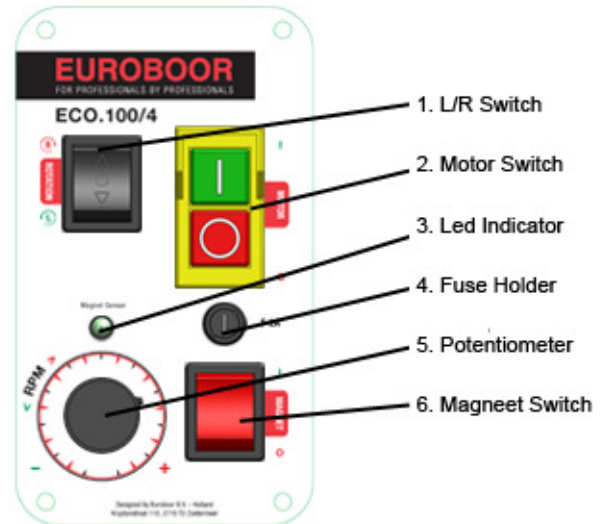

Fig. 2
Connect the machine to the mains/work piece. To activate the magnet, press the red button (Fig. 2 – 6). The switch will be lit (red). The LED indicator (Fig. 2 - 3) will be lit GREEN if generated magnetic force is sufficient. When LED indicator turns RED there is not enough magnetic force and it is not safe to work. To deactivate the magnet, press the same button (Fig. 2 - 6) again.
The motor unit can only be switched ON when the magnet is activated. To turn the motor ON, by pressing the green button with marking "I"(Fig. 2 - 2). To switch the motor OFF, press the red button with marking "O"(Fig. 2 - 2).
- Switch off the machine (Fig. 2 - 2) and change the cutter for the tap collet and the machine tap;
- Select the lowest gear (Fig. 4) and speed (Fig. 2 - 5) and set the direction of rotation to clockwise (right = R) at switch (Fig. 2 - 1);
- Switch on (Fig. 2 - 2) the machine and set the machine tap onto the drilled hole;
- Switch off (Fig. 2 - 2) the machine and set the direction of rotation to anti-clockwise (left = L) at switch (Fig. 2 - 1).
- Switch on the machine (Fig. 2 - 2) again and allow the machine tap to come completely out of the work piece. Then guide the machine slide upwards at handle to avoid damaging the start of the thread.